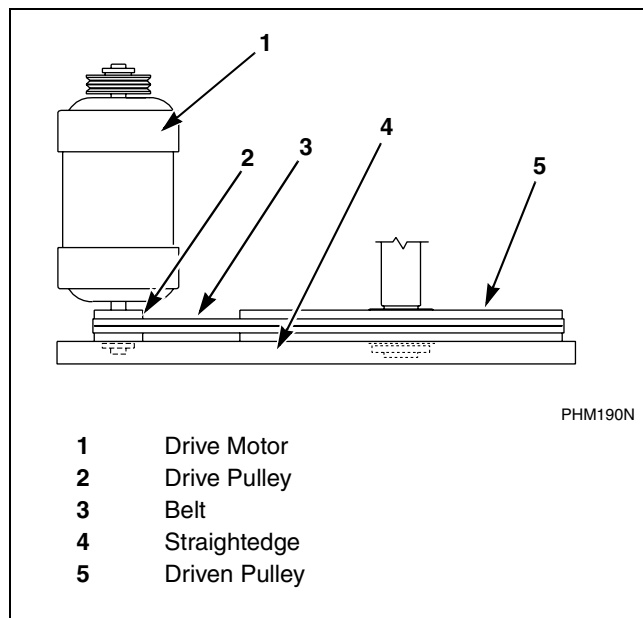

Figure 19
- c. Verify that V-belts are properly aligned by checking pulley alignment. Place a straightedge across both pulley faces. The straightedge should make contact with the pulleys in four places. Refer to *Figure 19*.